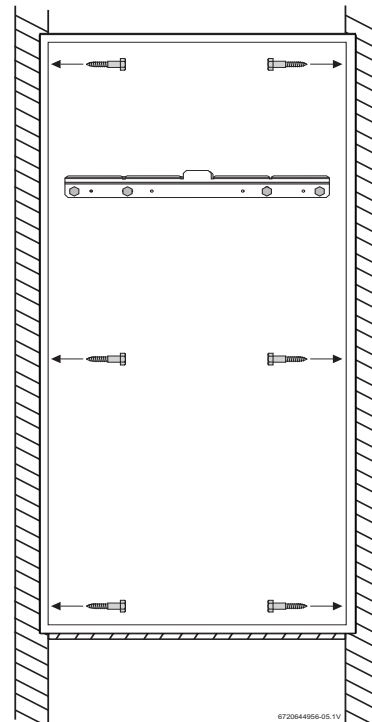

Fig. 19 Leveling the mounting bracket and screwing the recess box on the studs
► Secure the wall mounting bracket provided with the heater to the wall surface. The heater must be kept level on the wall surface, see Fig. 19, page 15.